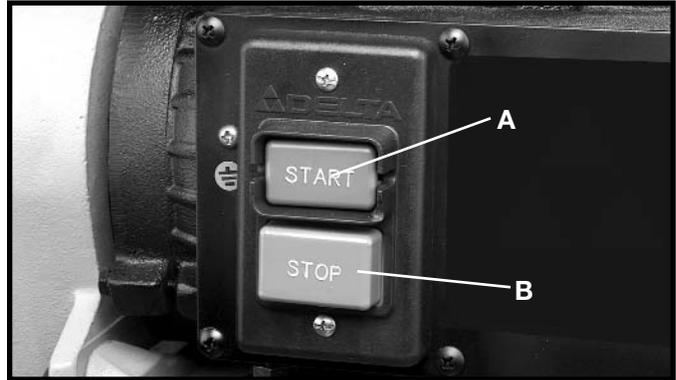

Fig. 18
The on-off push button switch is located on the motor junction box. To turn the machine "ON" push the start button (A) Fig. 18, and to turn the machine "OFF" push the stop button (B).